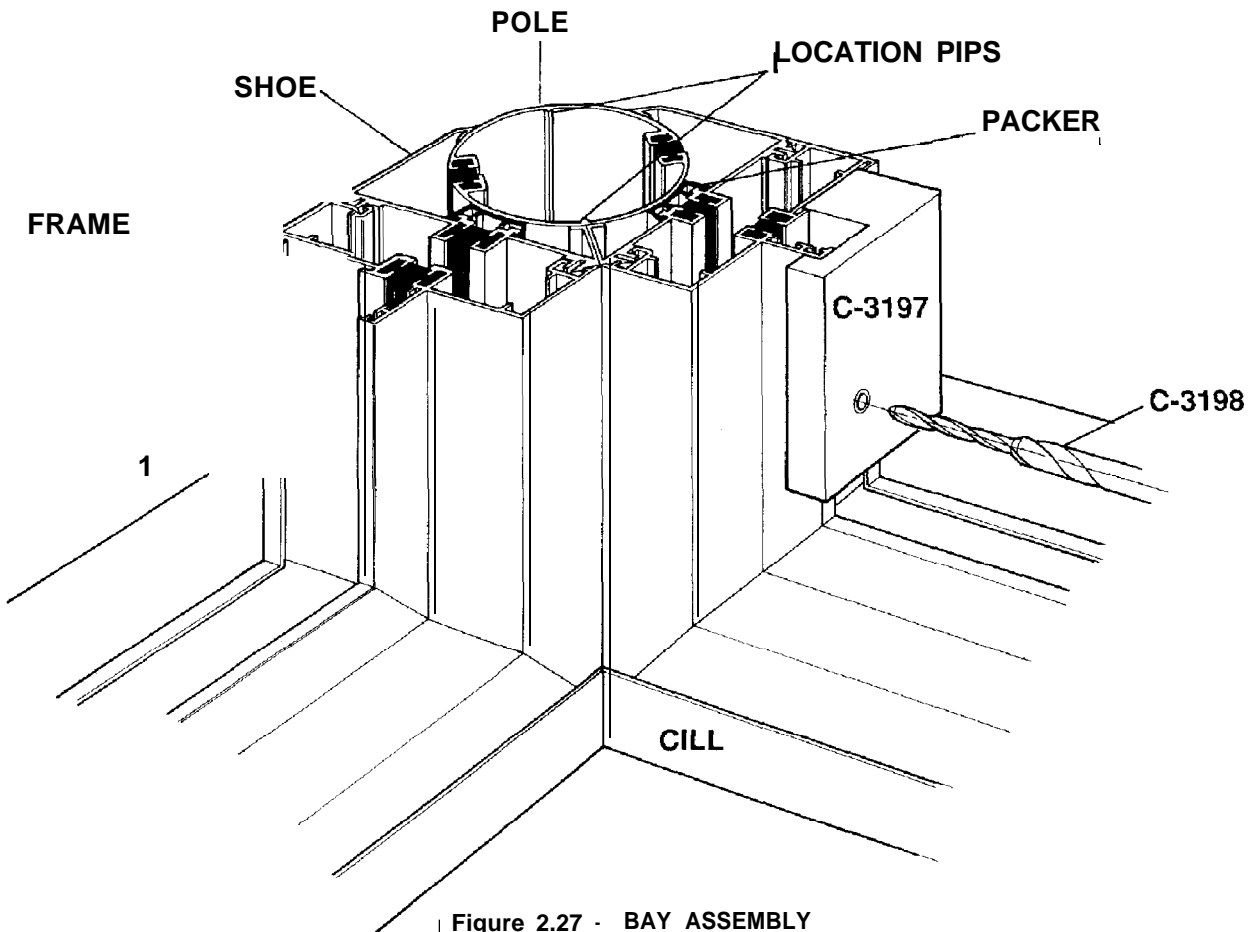

Figure 2.27 - BAY ASSEMBLY
9.7 ASSEMBLING THE BAY (Fig 2.27)